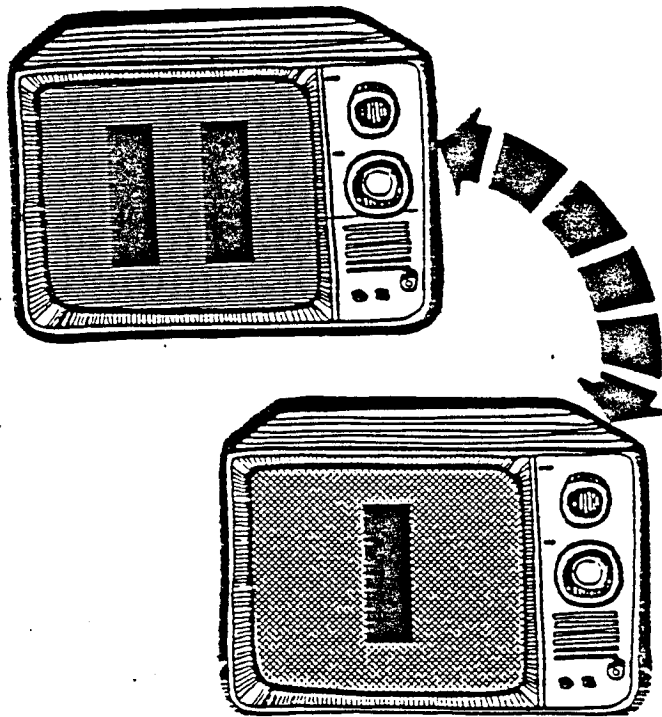

Figure 3-8. Audio Tone Screen
- Format: Short the right difficulty switches. This test displays two alternating patterns on the screen (See Figure 3-8) while two alternating tones are heard. The tones change in sync with the screen. This test continues for one full cycle after the switch returned to the initial position.